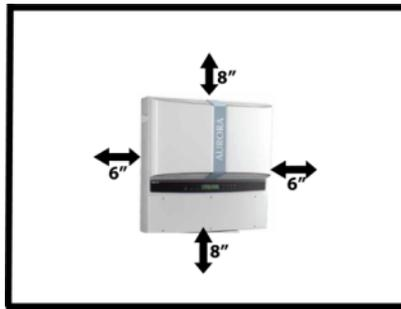

Figure 0.02 - Minimum Clearances around the AURORA Inverter
5. Access panels on the front surface of the inverter allow inspection and maintenance of hardware; and must not be blocked. Figure 0.02 shows the recommended minimum clearances around the inverter.